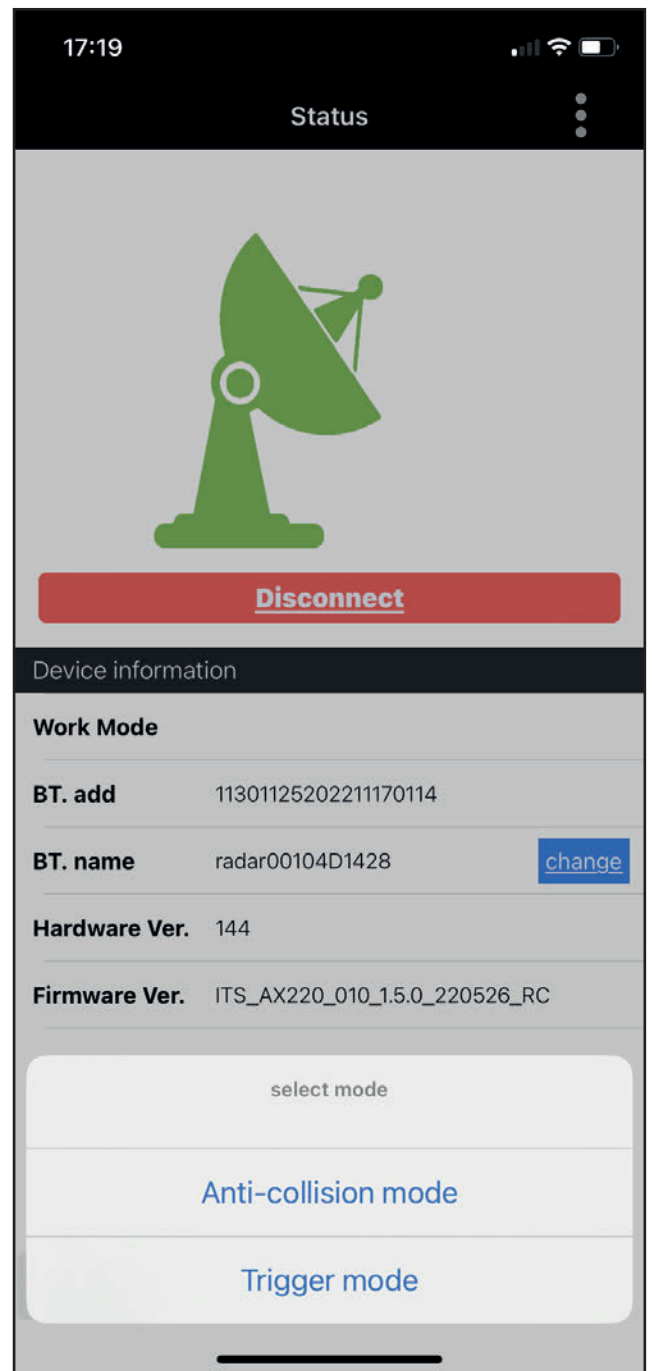

Figure 5
5. Choose the mode you need for your application (Figure 5)